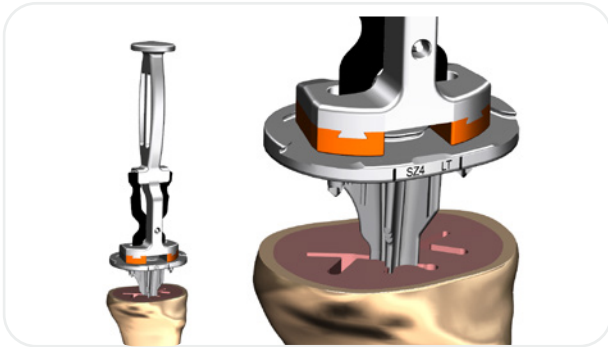

Figure 52
2. Align the porous tibia implant with the prepared tibia. Take care to ensure implant keel is appropriately aligned within the prepared slots (**Figure 52**).
3. Slowly impact the porous tibia implant roughly $\frac{3}{4}$ of the way down to the proximal tibia surface. While impacting, ensure that the inferior surface of the implant and proximal tibia are parallel (**Figure 52**). Also be sure to continually perform visual checks to ensure proper alignment is maintained throughout impaction.